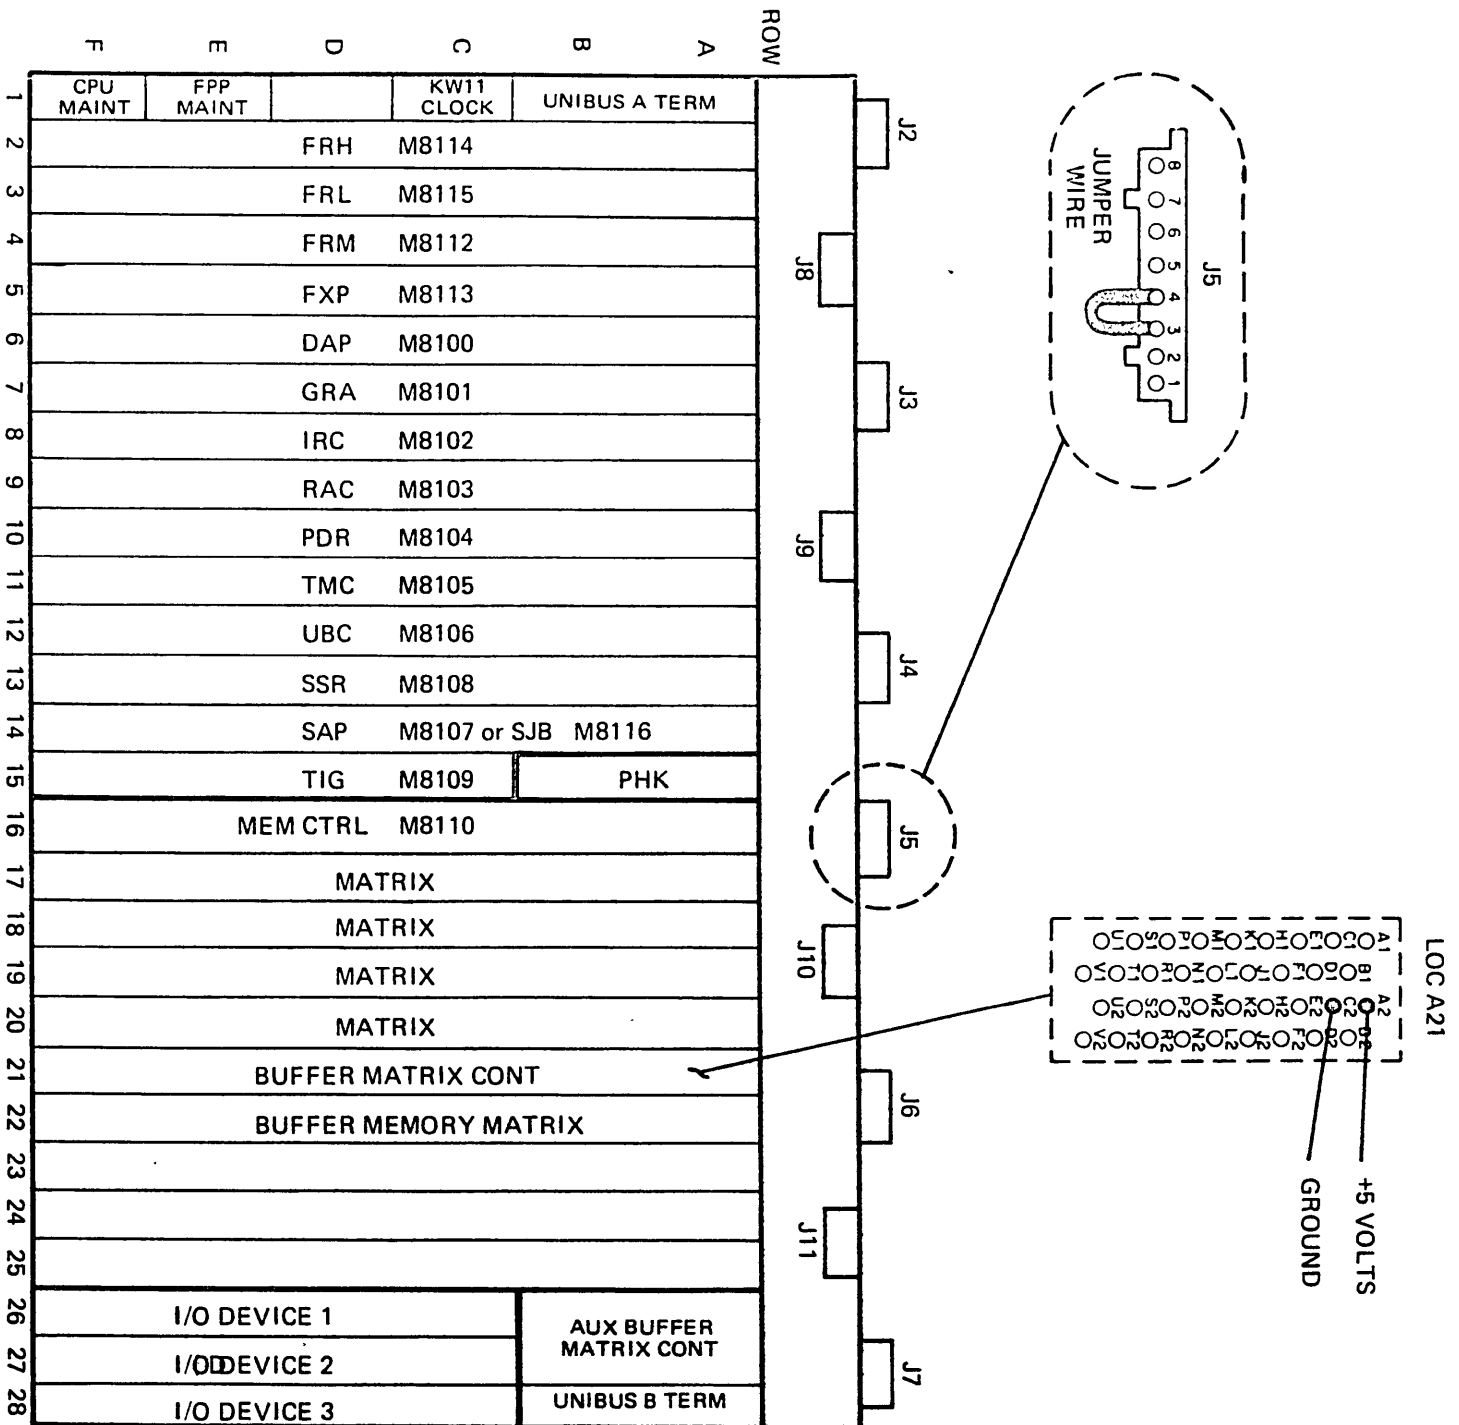

Figure 2-3
Installation of a power regulator in the lower H742 Power Supply makes it necessary to modify the CPU backplane power cabling as follows: reference Figure 2-3 and locate the jumper wire between J5 pins 3 and 4, remove one end of the jumper wire, wrap the disconnected end with insulating tape, as an alternate approach either cut the jumper wire or remove it entirely.
2. Connect a VOM between CPU location A21A2 and A21C2 (ground). Figure 2-3 illustrates the location of these test points.